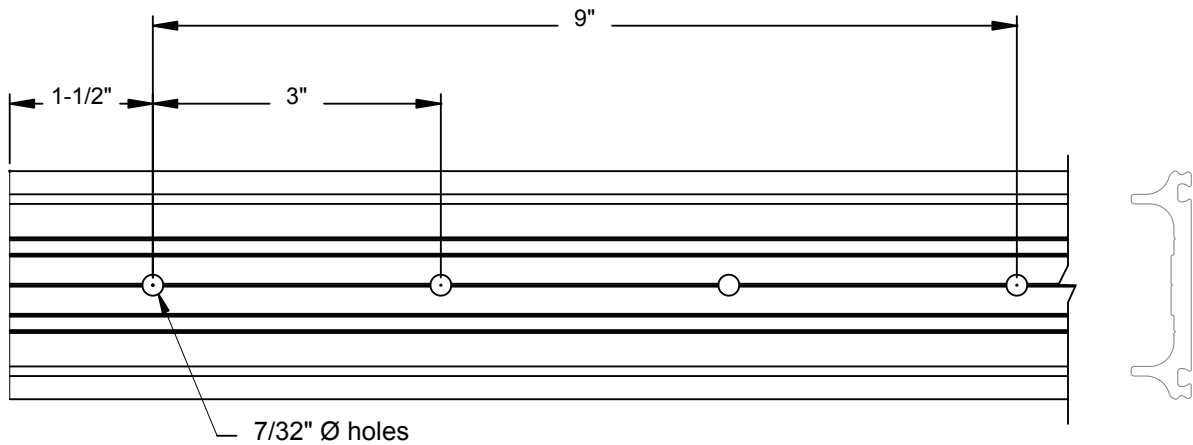

FIGURE 1
1.1 Pressure plate is pre-fabricated with 7/32" holes at 3" on center. Fasteners will be installed at 9" on center and should be located at maximum 1-1/2" from ends. Additional fasteners may be required based on project specifications. If additional holes are required use a 7/32" (.219) drill. (See notes below for drill bit recommendations) See FIGURE 1 Cut length of pressure plate will be mullion height for verticals and D.L.O. minus 1/4" for horizontals.